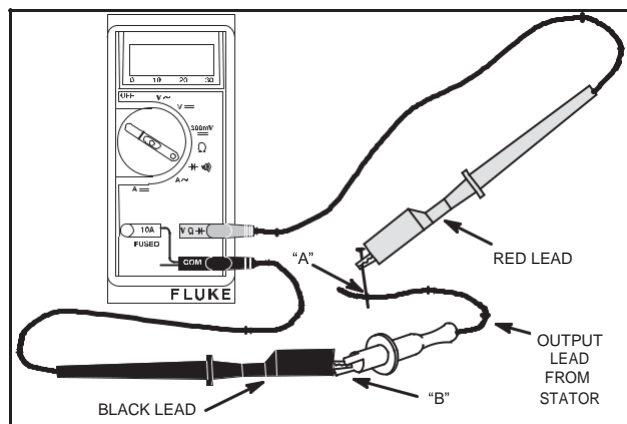

Fig. 12 – Testing Diode
4. Attach RED test lead clip to point "A" and BLACK test lead clip to point "B," Fig. 12. (It may be necessary to pierce wire with a pin as shown.)